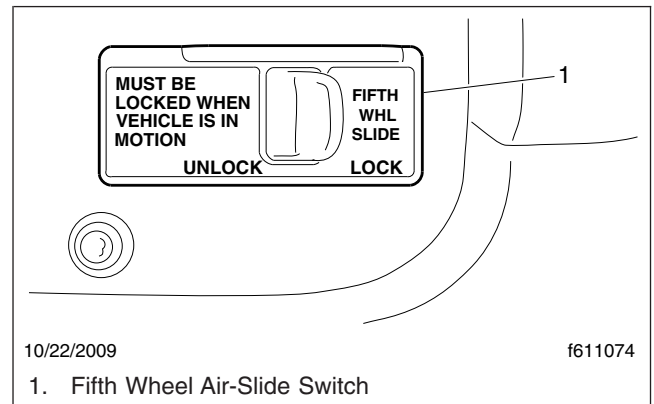
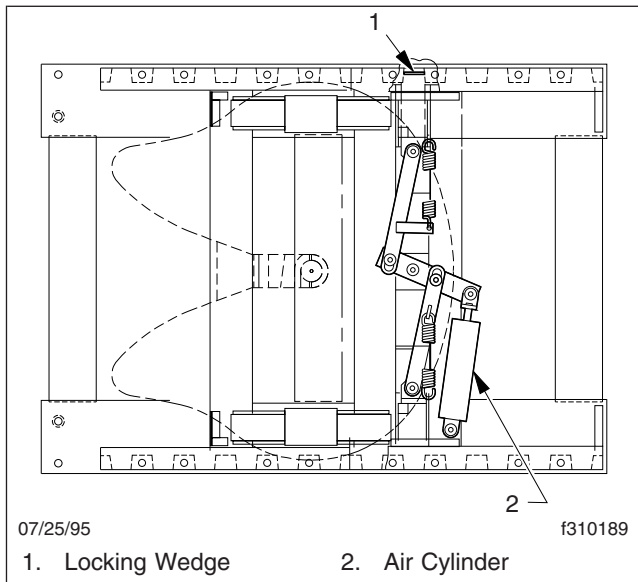

Fig. 18.14, Air-Slide Switch
Fig. 18.15, Air-Operated Sliding Fifth Wheel (Fontaine shown)
The slide feature may be operated with an air switch mounted in the dash, that operates an air cylinder that locks and unlocks the slide. See Fig. 18.14.
- Set the air-slide switch (Fig. 18.14) to UNLOCK. Ensure the locking plungers have released. See Fig. 18.15.